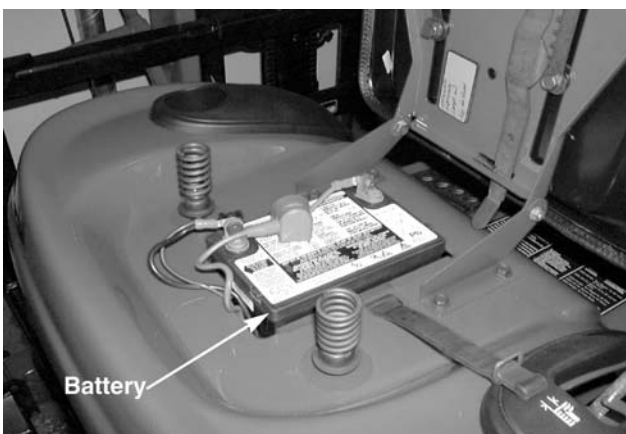

Figure 9-48
7. Remove the battery and battery tray from the tractor. See figure 9-48.